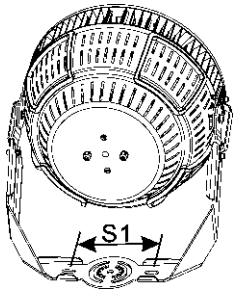

Figure 6
1. Mark the hole distance S1 shown in the product to be installed (Figure 6);